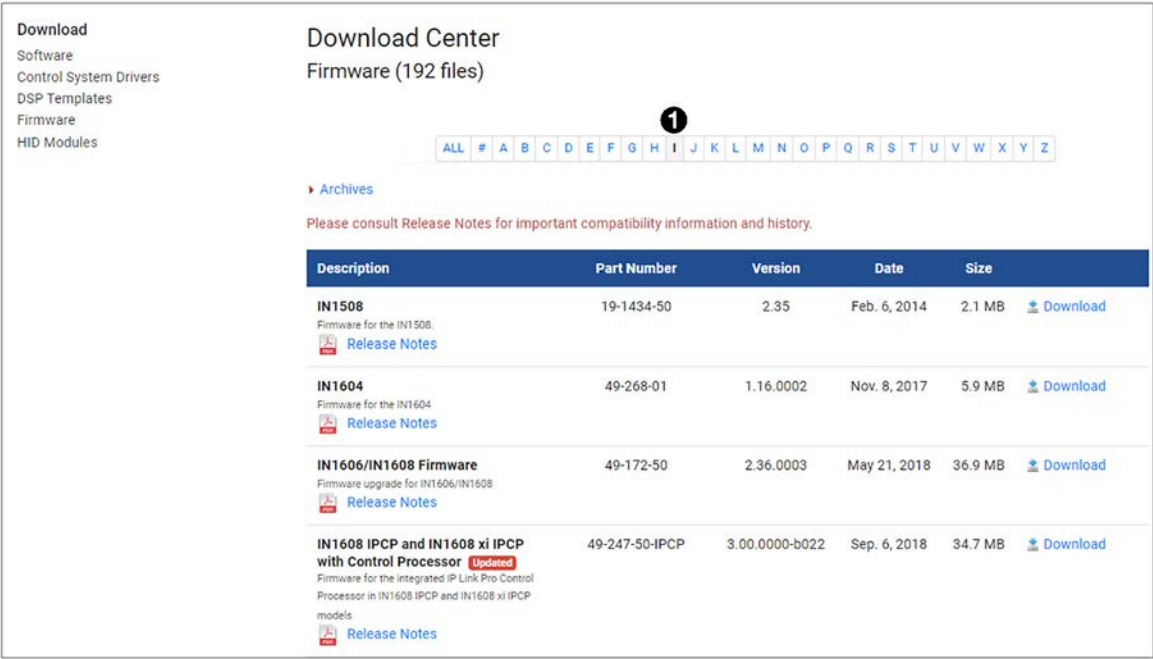

Figure 60. I Link on Firmware Download Center Page
3. On the Download Center screen, click the **I** link (see figure 60, ①).